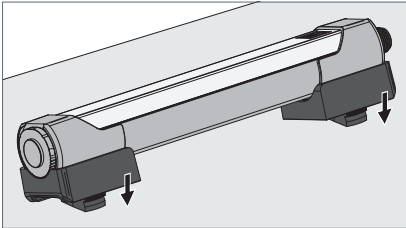

Fig. 3: Mounting the luminaire to the fastening elements
- ▶ Place the luminaire together with the mounted holders onto the fastening elements and press the luminaire downward until the holders snap into the fastening elements, see Fig. 3.